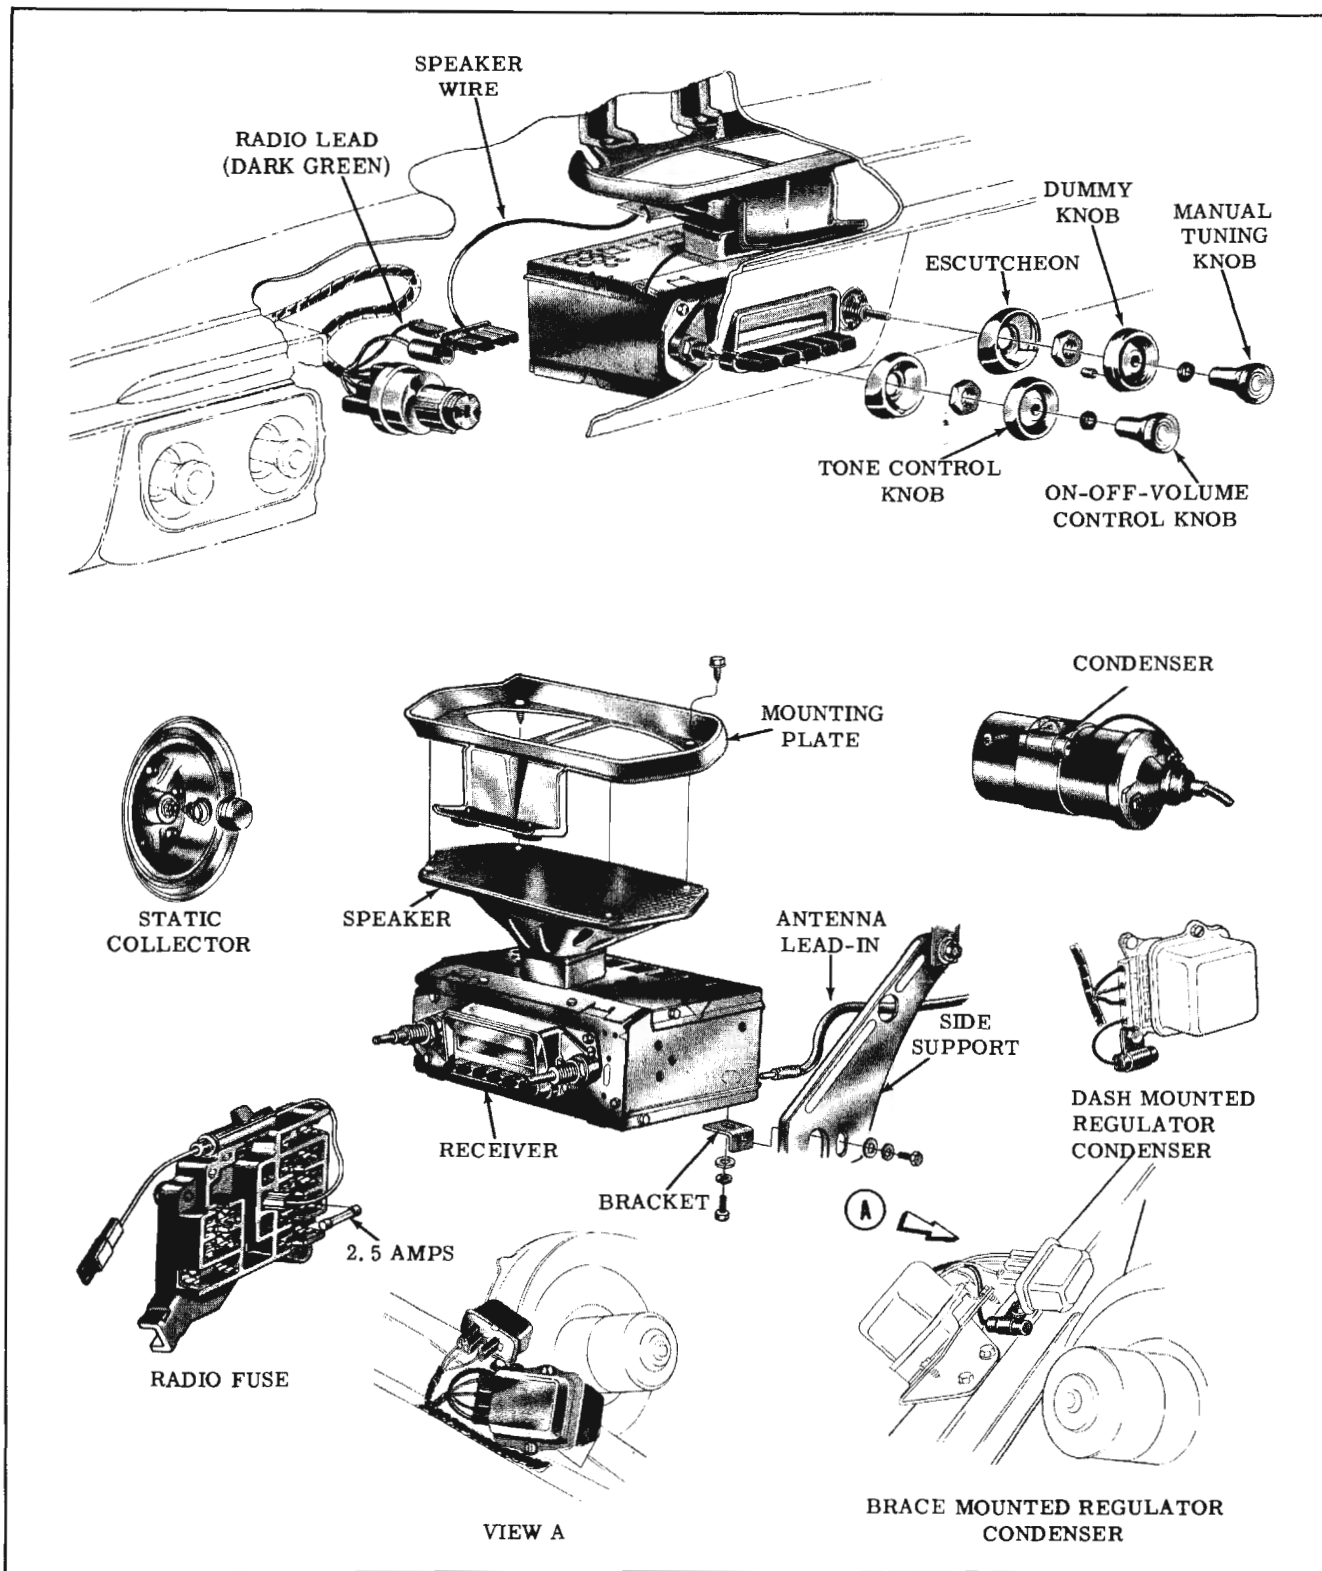

Fig. 13-134 Radio and Speaker Installation
1. Disconnect electrical connector from l.h. rear of receiver. Disconnect antenna lead-in and rear seat speaker wire (if so equipped) from r.h. rear of receiver. (Fig. 13-134)
antenna trimmer screw is now accessible through the hole in the escutcheon, (Fig. 13-134)